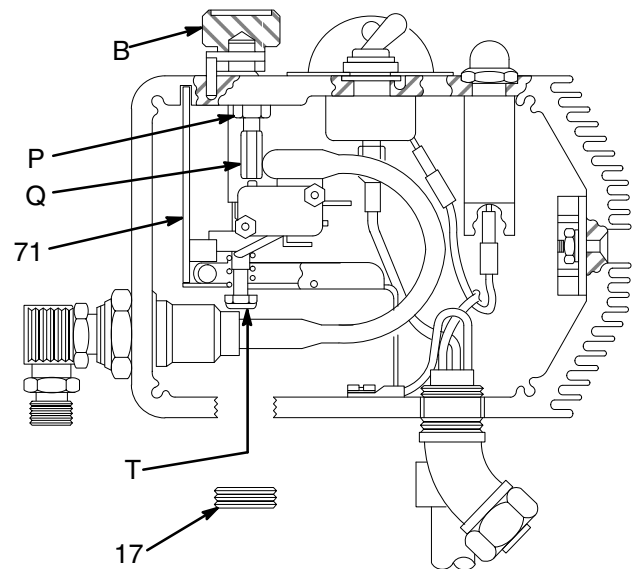

Fig. 22
- Turn the pressure-control knob (B) to the *minimum* setting (fully counterclockwise). Turn on the sprayer. **The pump should not cycle.** See Fig. 22.
**If the pump does cycle**, remove the plug (17) from the bottom of the pressure control. Insert a 3/8 inch nut driver through the opening, and unscrew the adjustment nut (T) just until the sprayer stops operating.